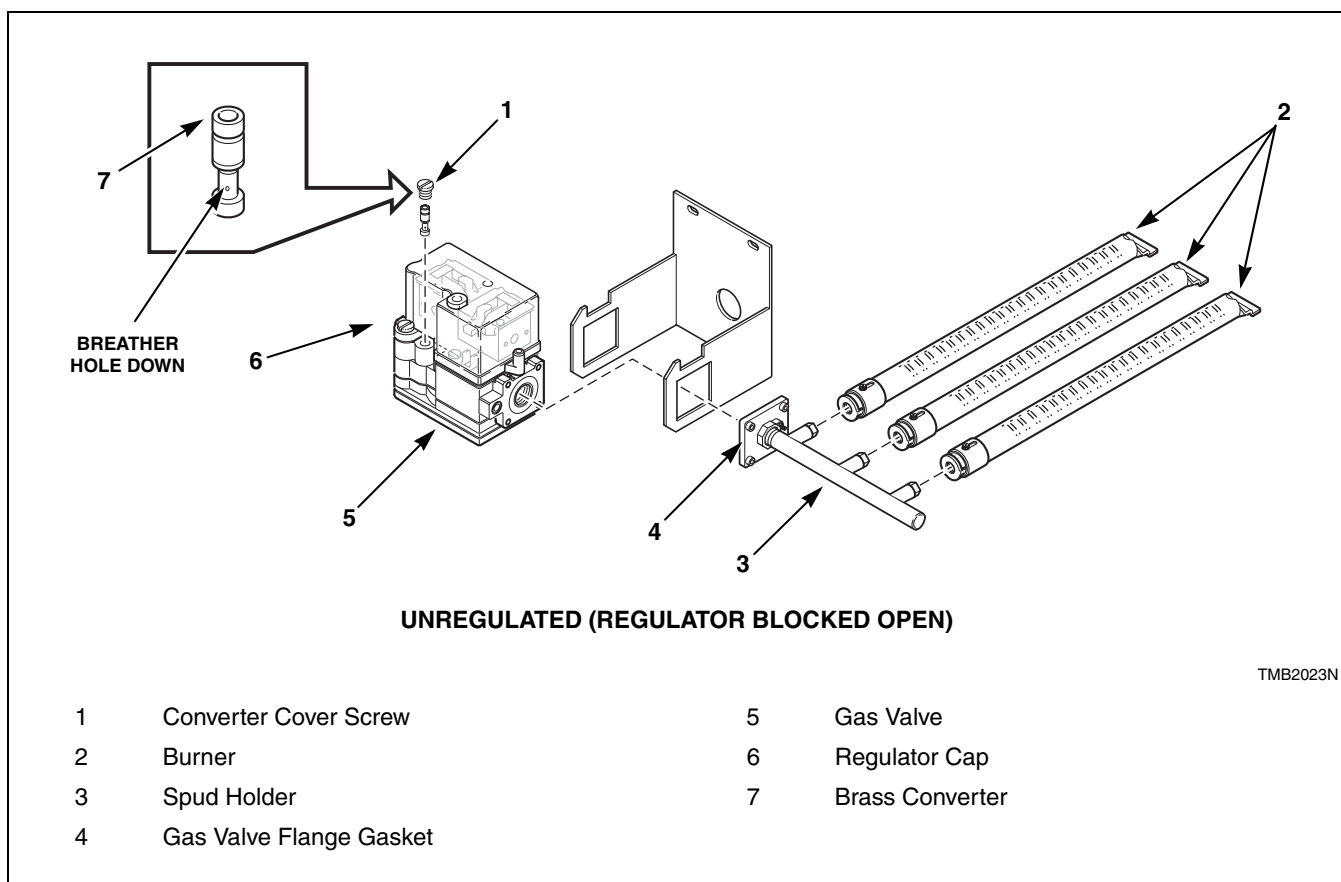

Figure 4
- b. Remove converter cover screw. Invert brass converter and install with breather hole down. Reinstall converter cover screw. Refer to *Figure 4*.
- a. **B-M Gas Valve (120 Pound Models)** – Use a 4 mm Allen wrench to remove the four screws holding the spud holder flange to the gas valve. Remove the burner orifice(s) from the spud holder. Refer to *Figure 4*.
- b. **Johnson GM2000 Gas Valve (170 Pound Models)** – Use a 5 mm Allen wrench to remove the four screws holding the spud holder flange to the gas valve. Remove the burner orifice(s) from the spud holder. Refer to *Figure 4*. When converting from Natural Gas to L.P. Gas, the left-most burner and orifice (viewed from front) must be removed. In place of the removed orifice, a blank orifice (Part No. M400995) and a Burner Opening Cover (Part No. M413099) must be installed.
4. Reinstall spud holder assembly to gas valve, making certain orifice(s) are in line with burner tube opening, and flange gasket is in place in flange groove. Refer to *Figure 4*.
For 120 pound tumblers, remove regulator cap and adjust regulator screw until the burner orifice pressure per applicable table is achieved. Replace regulator cap. Refer to *Figure 4*.